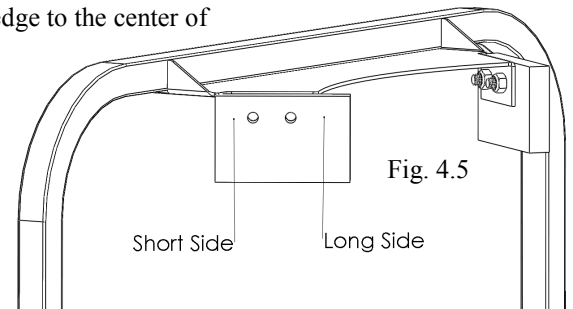

Fig. 4.5
- A: Insert Horizontal frame (1) inside of Vertical frame (10). Rotate Horizontal frame until the holes line up with the holes in the Vertical frame.
- B: Fasten the Horizontal frame (1) to the Vertical frame (10) Using two M6x35 bolts (9) . Secure with Lock nuts (8).
- C: Fasten both Rim Rests (21) to vertical frame (10) using four M6x25 bolts (13). Secure with Lock Nuts (8).
- Note:** Rim Rests (21) have a short side and a long side. (The distance from the edge to the center of the hole.) The long side must face toward the rim when in use. See figure 4.5